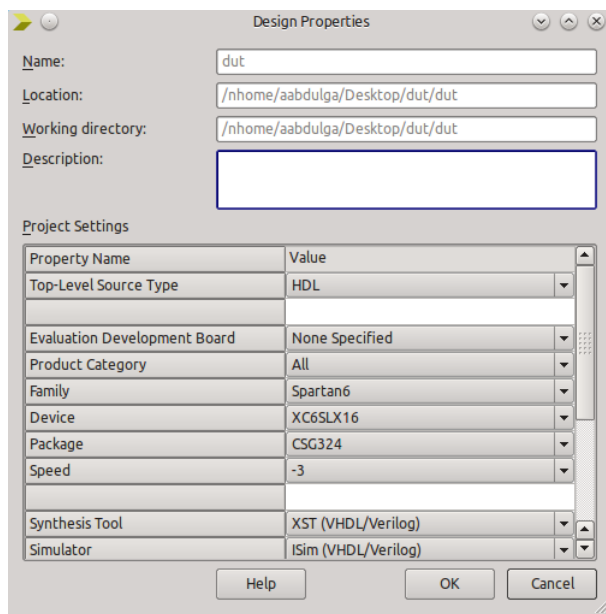

Figure 4.7: DUT Design Properties
1. Create a new project using Xilinx ISE. In the New Project wizard set the Project Settings per the DUT Board used. Make sure to select the values for Family, Device, Package and Speed (See Fig 4.7 for an example).